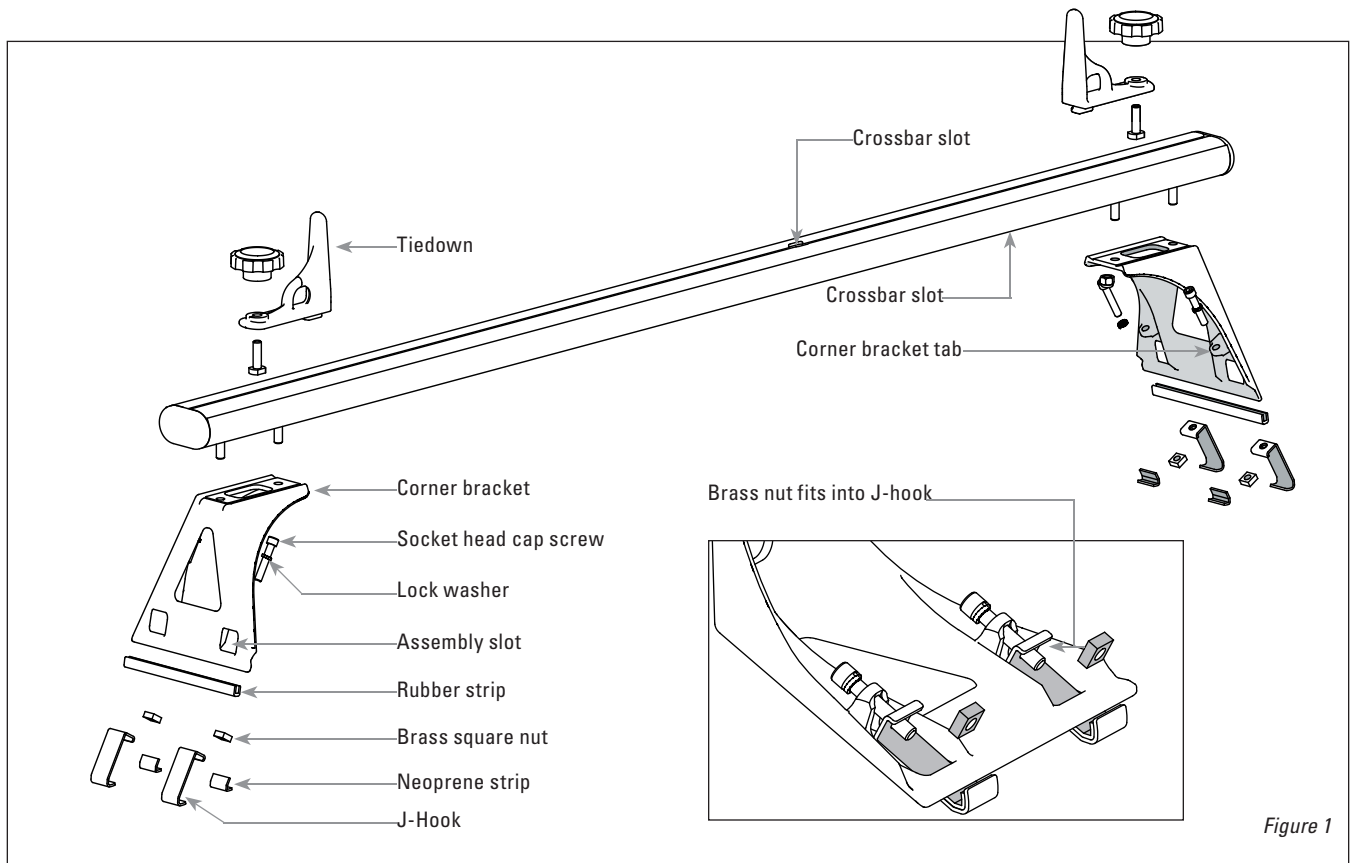

Figure 1
2. Insert 2 (5/16" x 1 3/4" long) Socket Head Cap Screws through the Lock Washers and then into the holes in each Corner Bracket Tab. (See Fig. 1)
3. Insert the J-Hooks with Neoprene Strips through the Assembly Slots at the base of the Corner Bracket. Then insert 2 Brass Nuts into the opening of the J-Hook clips. Thread each screw approx. 1/4 in. into the J-hook's brass nut. (Do not completely tighten screws) Repeat for each Corner Bracket, (2 hooks for each Bracket). (See Fig. 1)